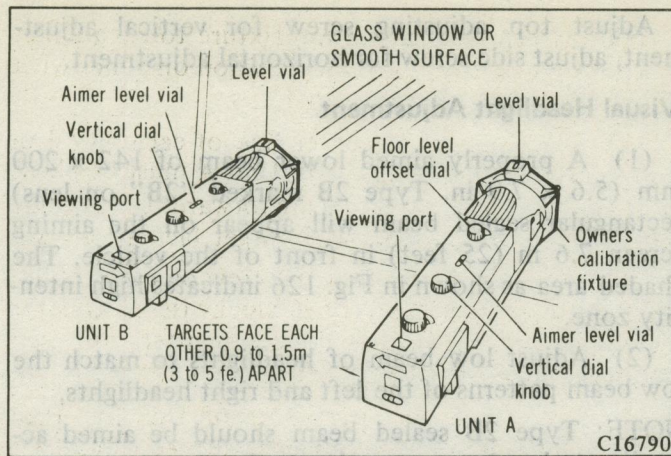

Fig. 122 Checking Aimer Calibration
(1) Turn thumb adjusting screw on each calibration fixture until it is approximately the same distance as the supporting posts.
(2) Attach calibration fixtures to each unit with level vials on top. (Fig. 122)
(3) Locate a true vertical plate glass window or smooth surface and secure aimers three to five feet apart so split image targets can be located in viewing ports. (Fig. 122)
(4) Set floor level dial at zero.
(5) Rotate thumb adjusting screws on each calibration fixture until level vials on fixtures are centered. (Fig. 122)